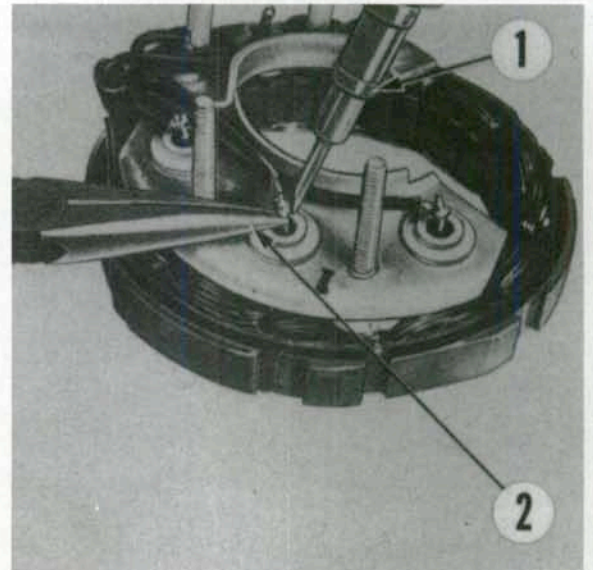

Fig. 149—When soldering stator leads to diodes, use needle-nose pliers (2) as a heat sink to protect diodes from heat damage.
**NOTE:** When unsoldering or soldering stator leads to diodes, place needlenose pliers between diode and solder point as shown in Fig. 149 to act as a heat sink. Use a lightweight soldering iron to avoid applying excess heat to the diodes.